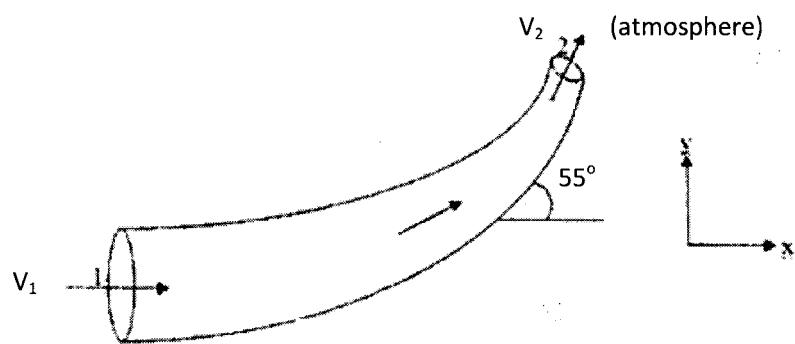

Figure Q4(c)/Rajah Q4(c)
- c) A horizontal pipeline terminates in a nozzle pipe that discharges to the atmosphere (Figure Q4(c)). The pipelines has a diameter of 0.8 m and operates with a velocity of 2.5 m/s. Calculate;